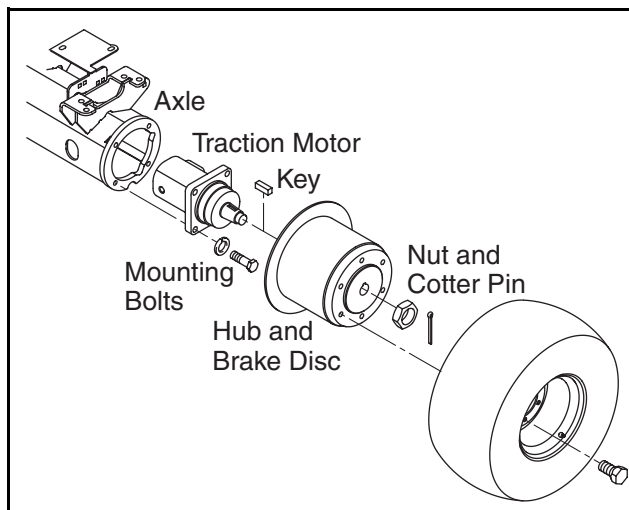

Figure 8E-2. Traction Motor Mounting
9. Remove the motor from the axle (Figure 8E-2).
1. Disassemble motor as shown in Figure 8E-3.